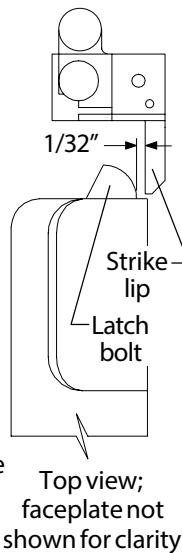
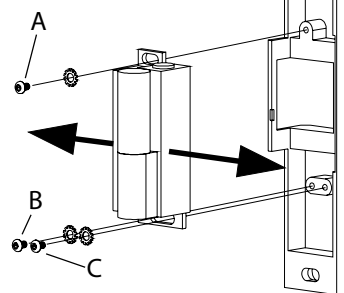

Figure 2
Figure 3
5. Install strike with two #12-24 screws. Make sure clearance between latch bolt and strike lip is $1/32"$ (Figure 2). If not, uninstall strike, adjust (Figure 3), and reinstall.